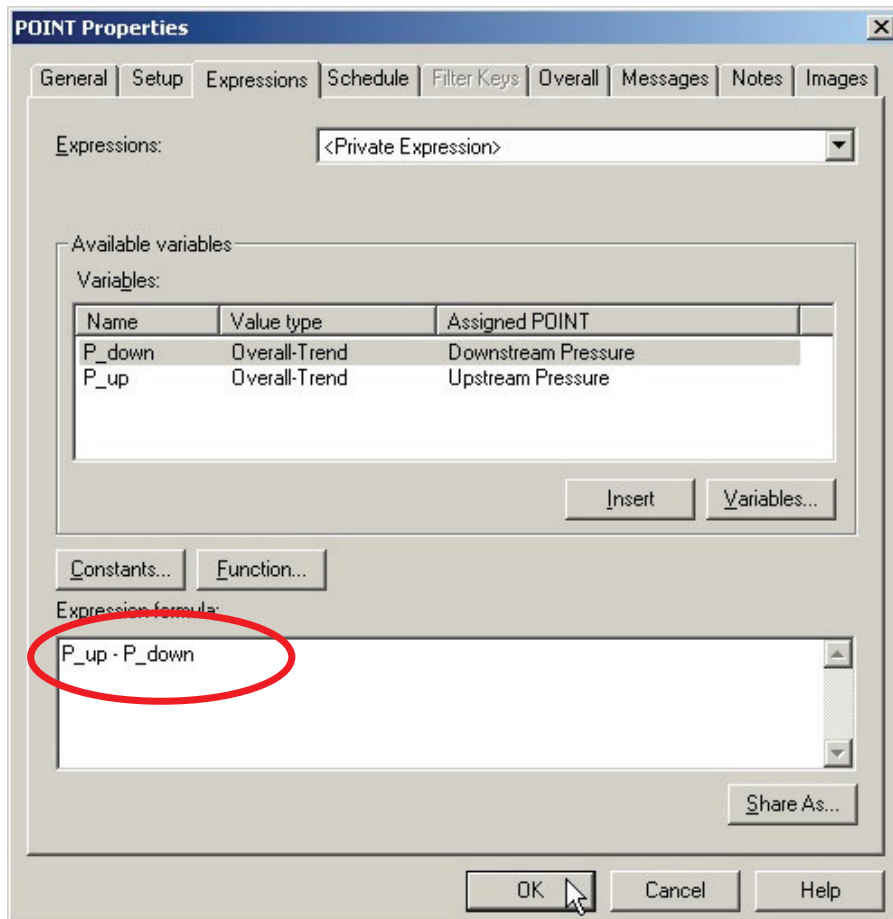

Figure 4. The finished expression.
- Type in a minus sign to indicate subtraction, then repeat the process for the **P_down** variable, as shown in **fig. 4**.
Of course, this is a very simple derived POINT example. More complicated equations can also be created, like those used for calculating flow, friction loss, etc. To assist in creating more complex equations, a set of mathematical **Constants** and **Functions** are available from **Expressions** tab buttons (\rightarrow fig. 4).